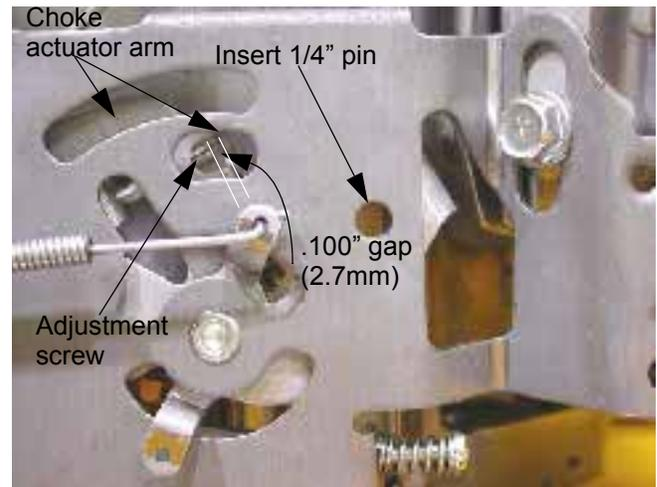

Figure 14.9
- 14.9. Adjust the choke using the screw on the control bracket. See Figure 14.9.